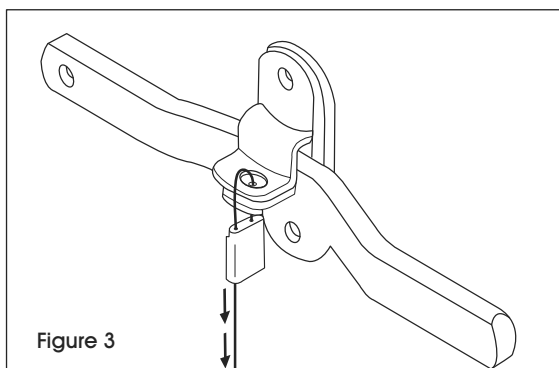

Figure 3
5. Grasp the cable with one hand and case with the other. Pull on cable tightly to minimize loop in cable. (See Figure 3)